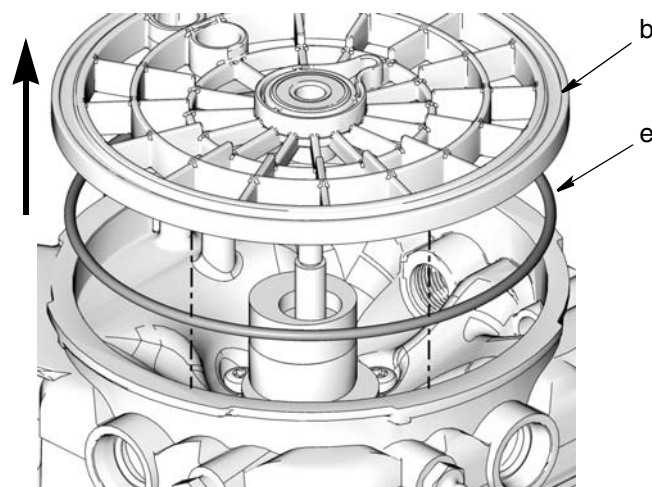

FIG. 6
4. Remove o-ring (e) located under ricer plate (FIG. 6).